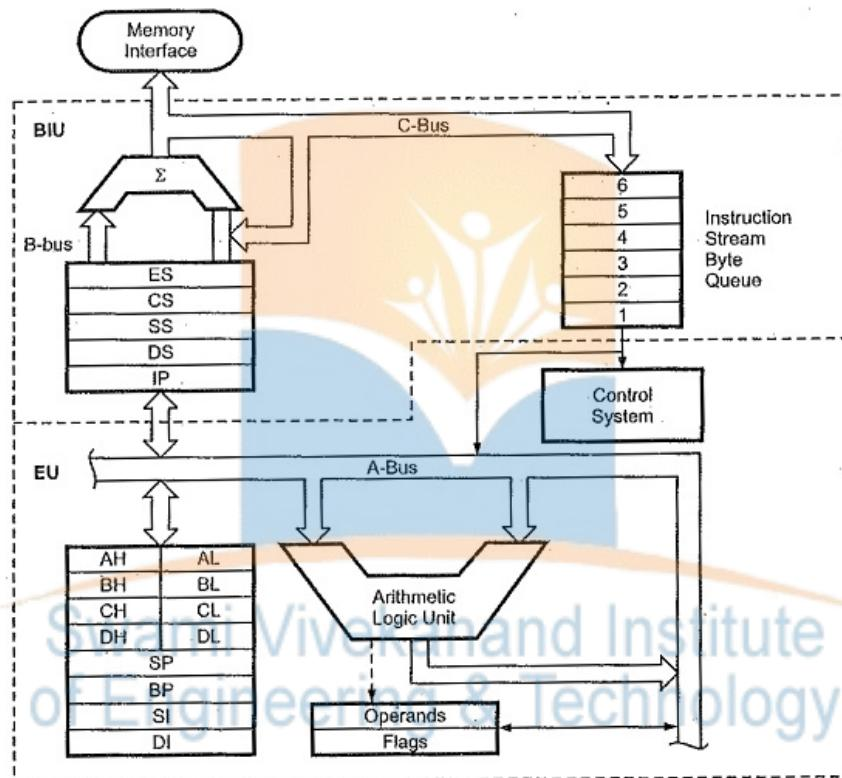

Fig. 4.1 8086 Internal block diagram
Fig. 4.1 shows a block diagram of Internal Architecture of 8086. It is internally divided into two separate functional units. These are the **Bus Interface Unit (BIU)** and the **Execution Unit (EU)**. These two functional units can work simultaneously to increase system speed and hence the throughput. Throughput is a measure of number of instructions executed per unit time.